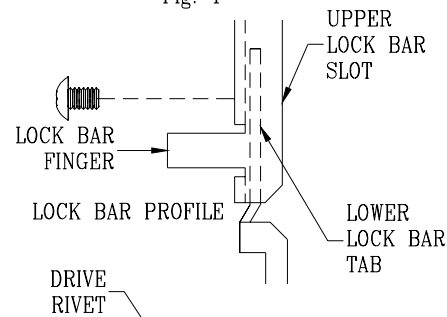

Fig. 2
1. **Removing Drive Rivets (Fig. 2):** Using either a nail or a nail punch along with a hammer, drive the rivet pin (Fig. 5 on previous page) all the way down and through the drive rivet until it drops out. With the nail or nail punch in the hole, pry the rivet out.